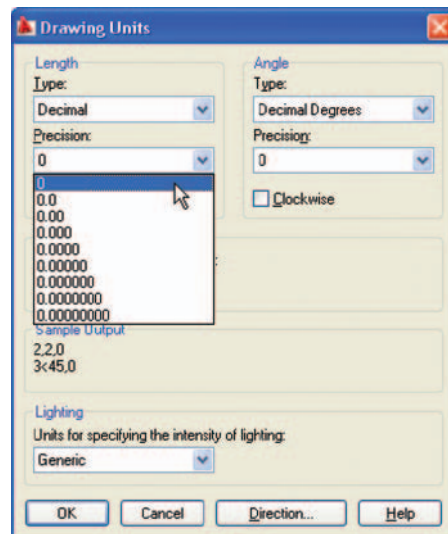

Fig. 1.27 Setting Units to 0
5. In the command palette enter **units** and *right-click*. The **Drawing Units** dialog appears (Fig. 1.27). In the **Precision** pop-up list of the **Length** area of the dialog, *click* on **0** and then *click* the **OK** button. Note the change in the coordinate units showing in the status bar.